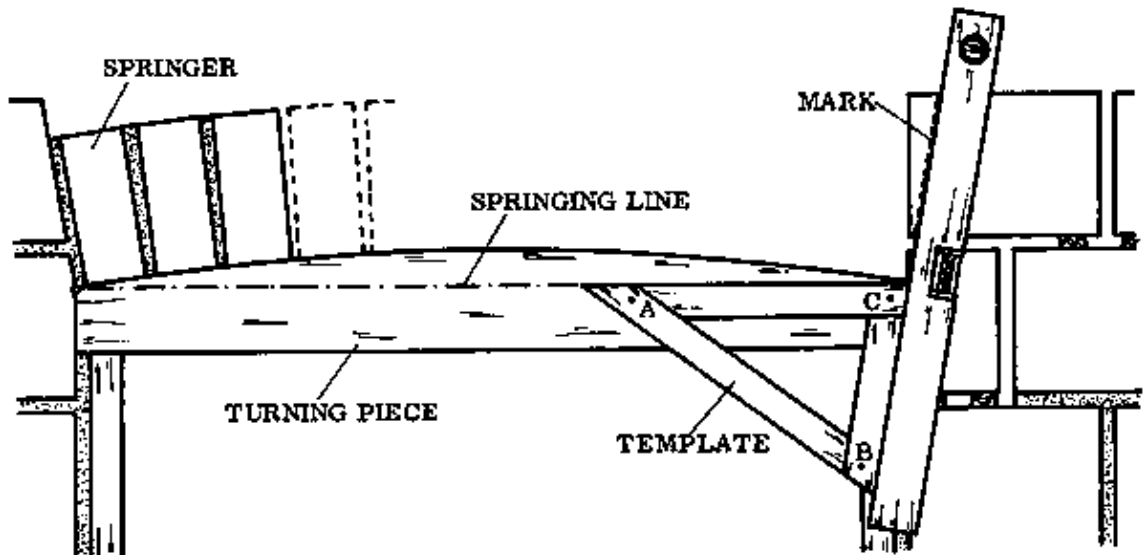

Fig. 2
– USE OF THE TEMPLATE: The outside edge measuring 50 cm (side b) is held along the springing line, while the tip of the corner C is at the springing point (Fig. 2). The direction of the shortest side (side a) extended upwards with a straight edge gives the slope of the skewback. To mark the skewback on the other side, the template is simply turned around and the procedure is repeated.